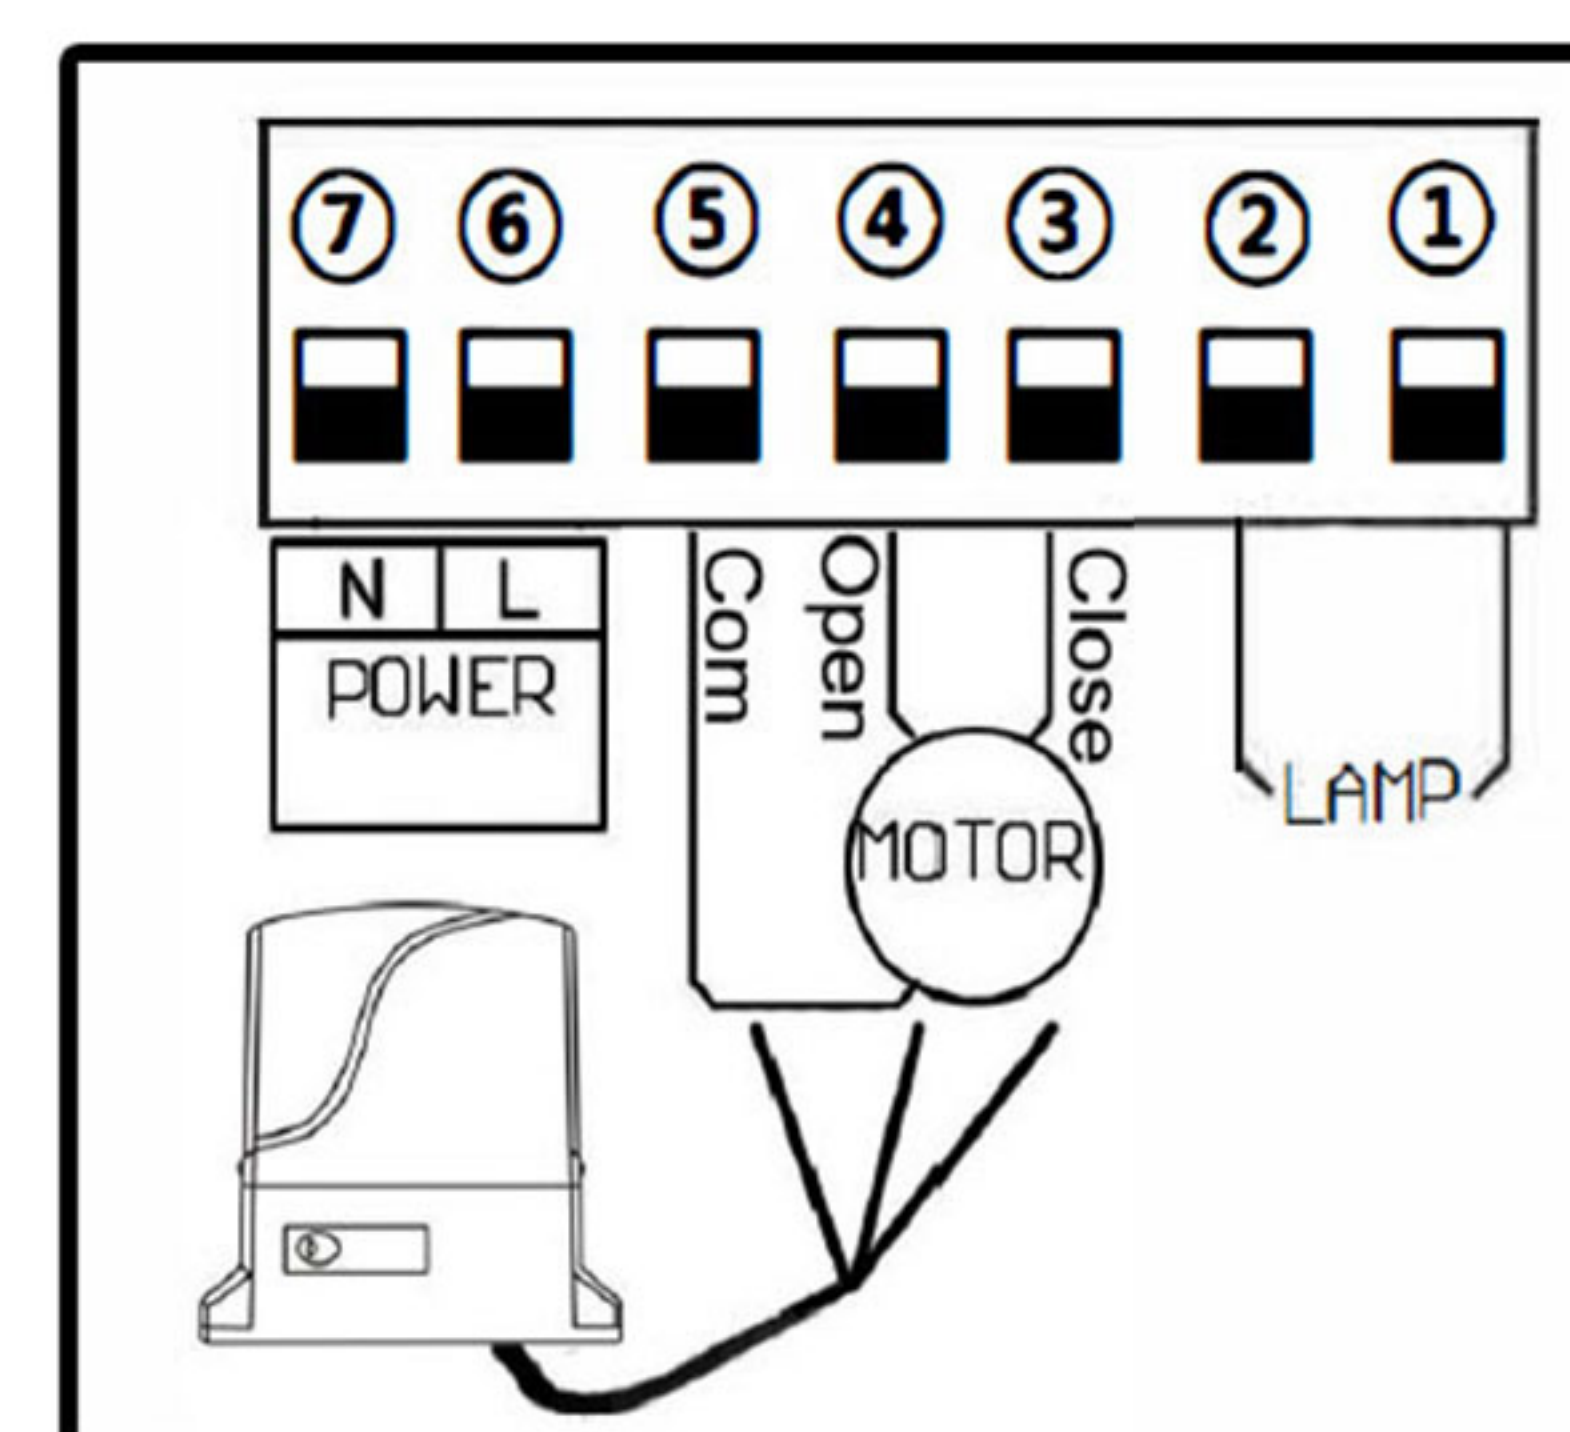

Figure 8
7.2. Connect to sliding gate motor (Fig 8)